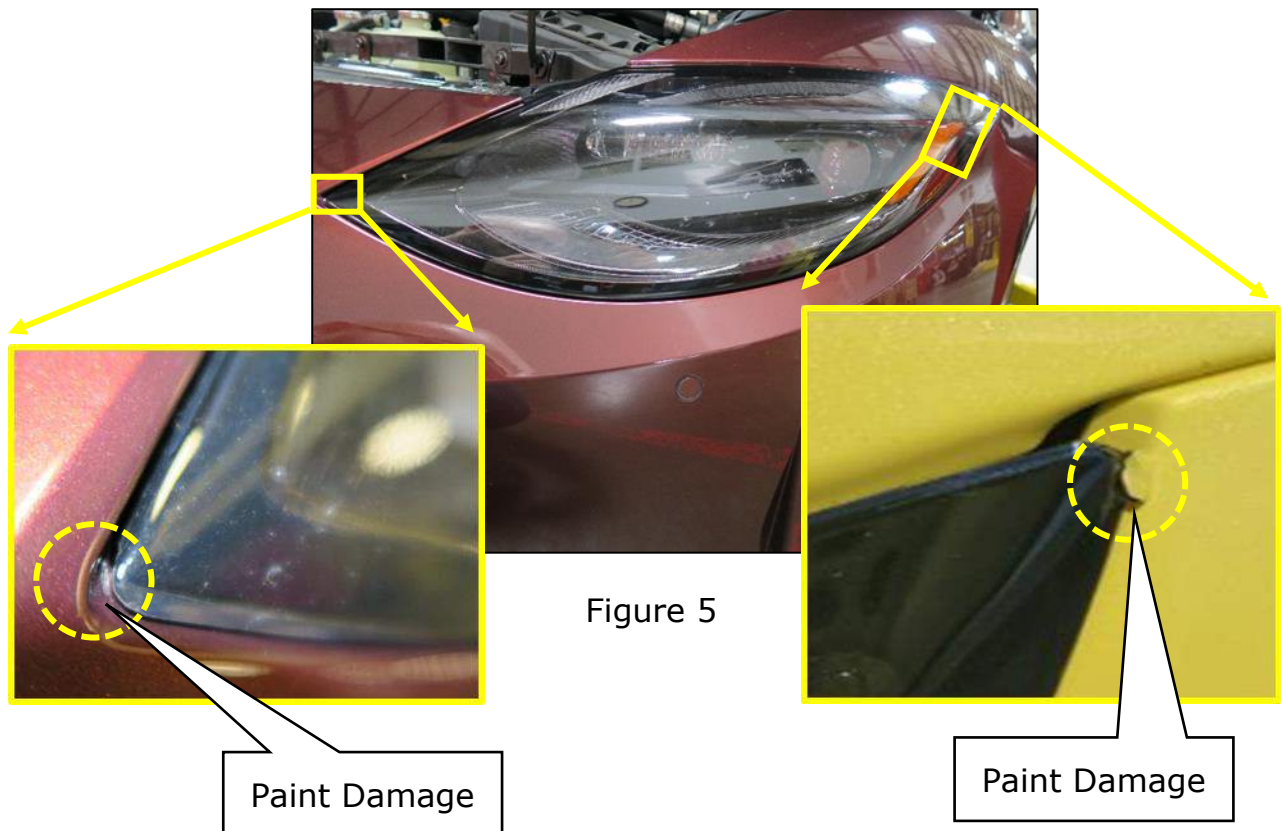

Figure 5
3. Visually inspect the corners of the front bumper for paint damage. (Examples of damage shown in Figure 5)